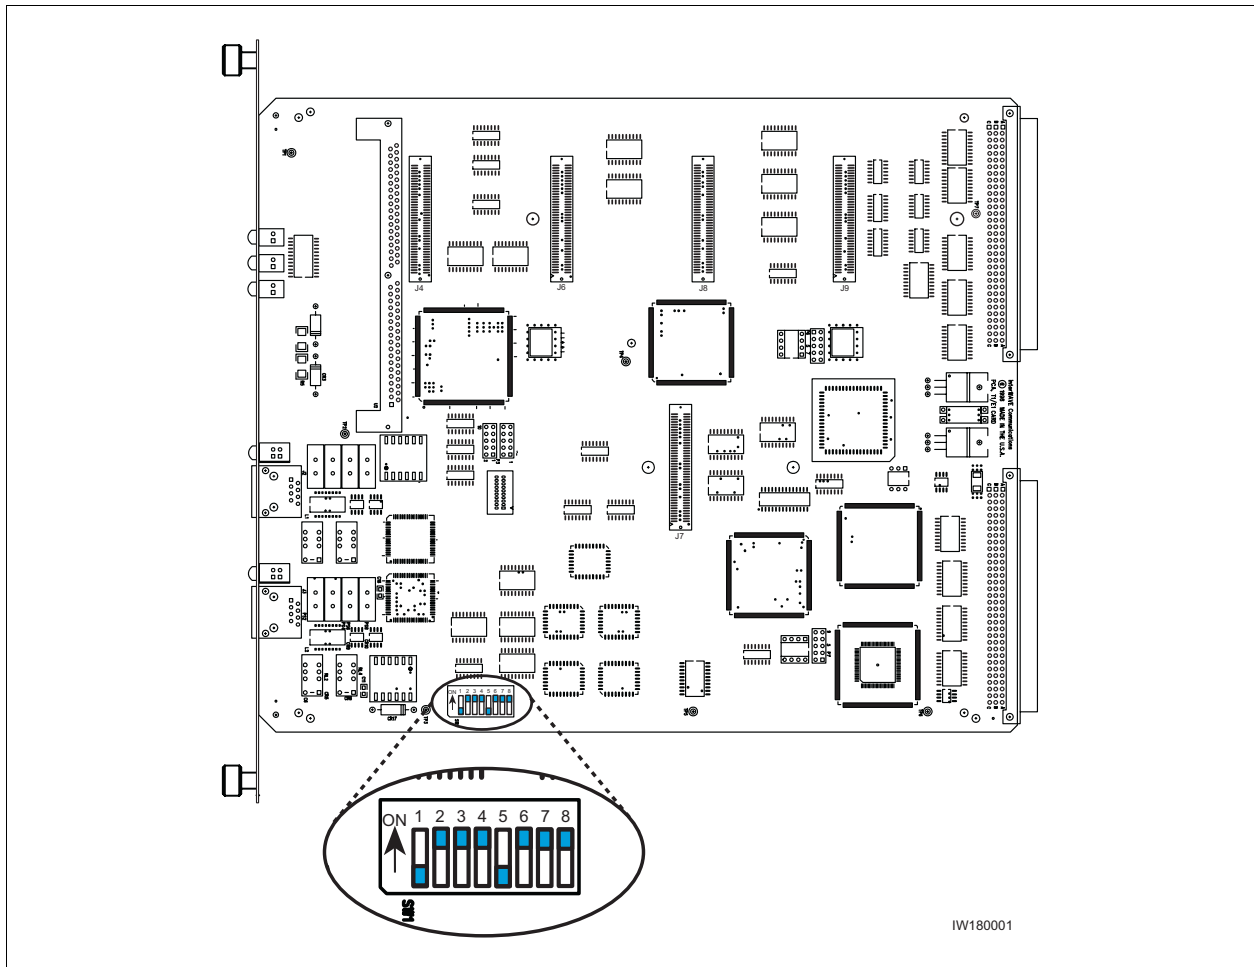

Figure 2-7: Location of DIP Switch on a T1 Trunk Card
- 5 See Figure 2-7 to locate the DIP switch.
Figure 2-7 shows the location of the DIP switch.